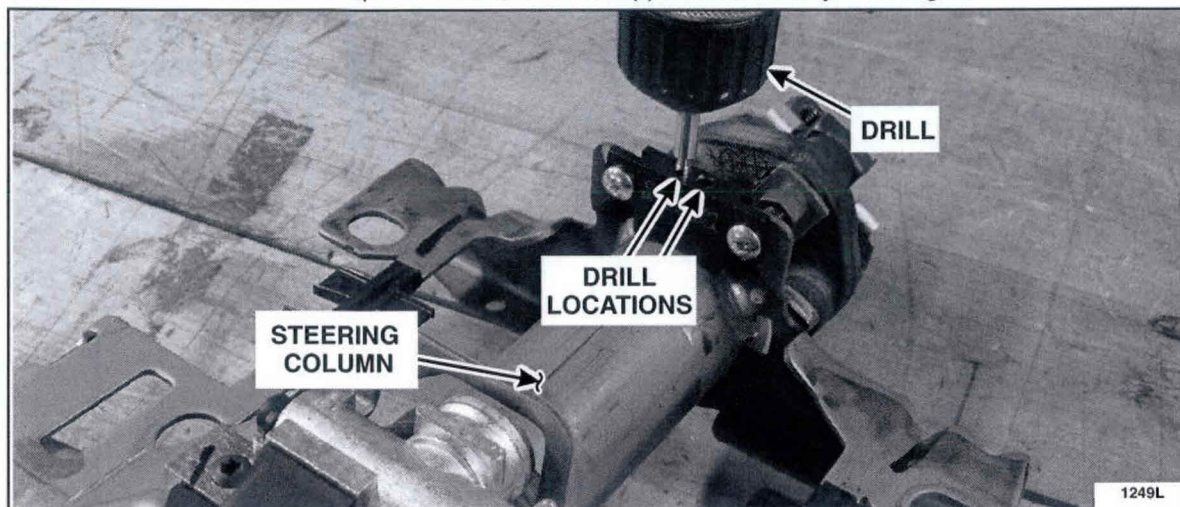

FIGURE 9
6. Drill out both hole locations using a drill and the supplied drill bit from Rotunda Special Tool Kit TKIT-2013A-FLM. Drill bit depth is critical, use the supplied drill bit only. See Figure 9.